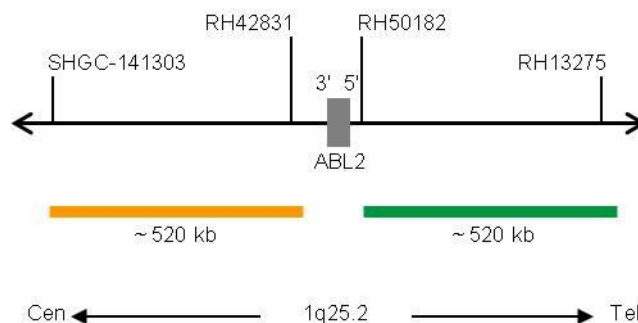

Fig. 1: SPEC ABL2 Probe map (not to scale)
- ZyGreen (excitation 503 nm/emission 528 nm) labeled polynucleotides (~10.0 ng/μl), which target sequences mapping in 1q25.2* (chr1:179,141,608-179,659,091) distal to the ABL2 breakpoint region (see Fig. 1).
- ZyOrange (excitation 547 nm/emission 572 nm) labeled polynucleotides (~4.5 ng/μl), which target sequences mapping in 1q25.2* (chr1:178,496,704-179,015,312) proximal to the ABL2 breakpoint region (see Fig. 1).